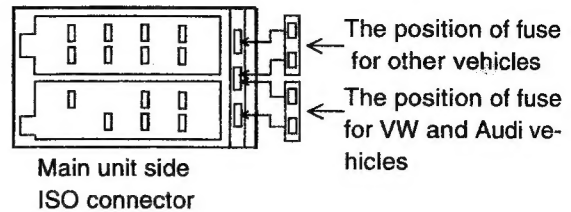

Fig.1
1. For VW and Audi vehicles, change the position of fuse installation as shown on the diagram. (Fig. 1)